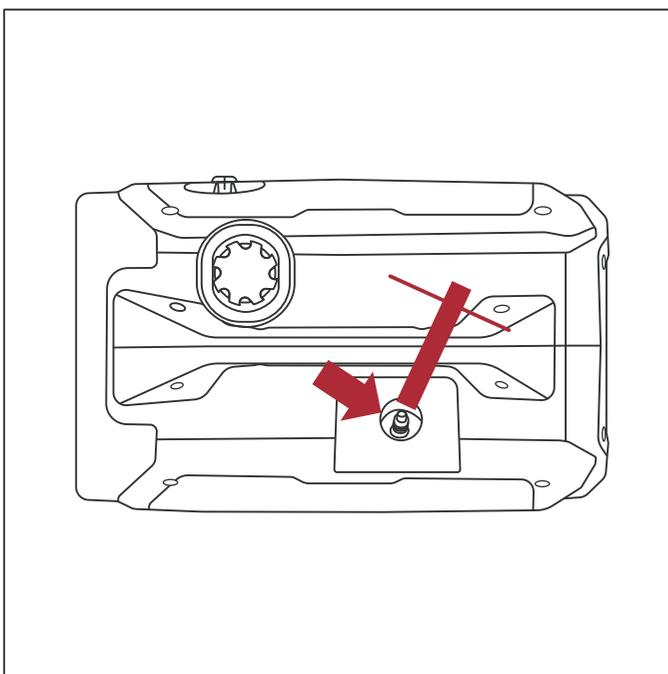

Fig.29
- 5 Using the spark plug socket wrench provided, remove the spark plug from the cylinder head (see **Fig.29**).